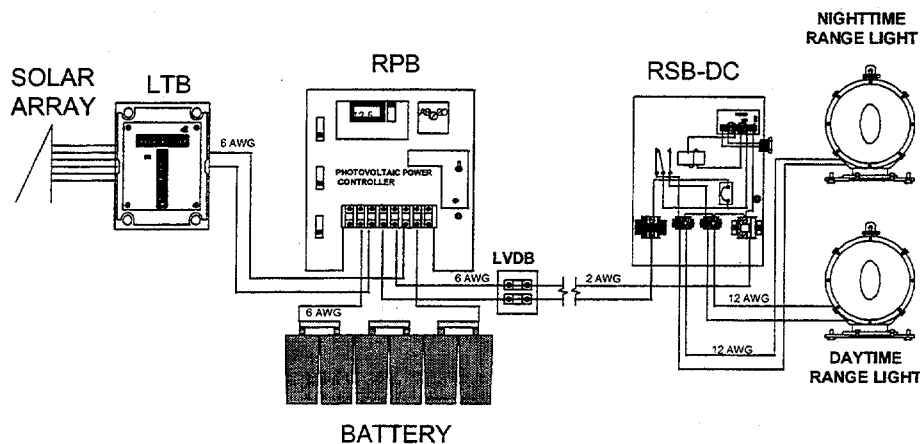

Figure 5
- E. Example - Day/Night Range. Figure 5 is a typical day/night range installation. This aid has six 40 watt solar panels (battery size is unimportant), a daytime range light with 12 volt, 35 watt lamps and a nighttime light with 0.55 amp lamps. The array is 25 feet from the RPB and the range lights are 100 feet from the RPB. The RPB is 6 feet from the battery.